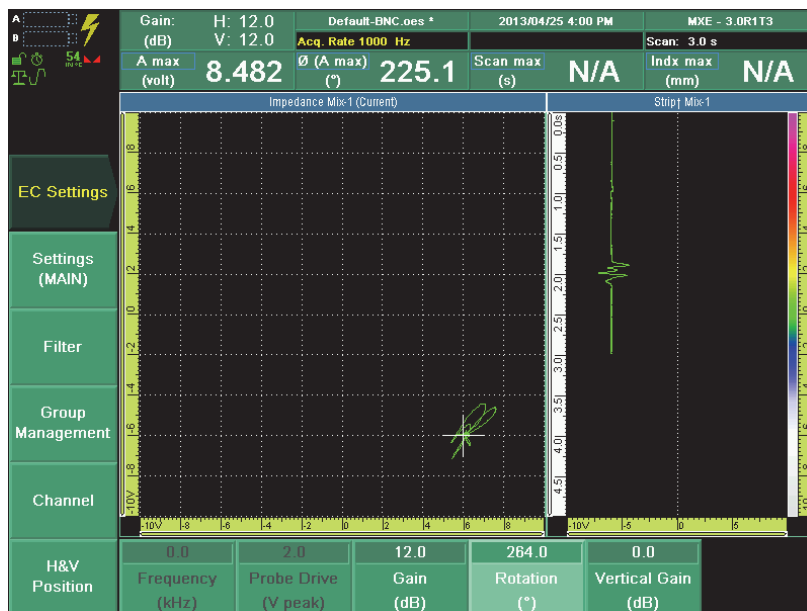

Figure 9-43 The signal resulting from mixing the frequency 1 and frequency 2 is weak
12. Scan the good fastener, and then the defective fastener on the calibration sample. The signal of both fasteners in the views should be weak (see Figure 9-43 on page 177).